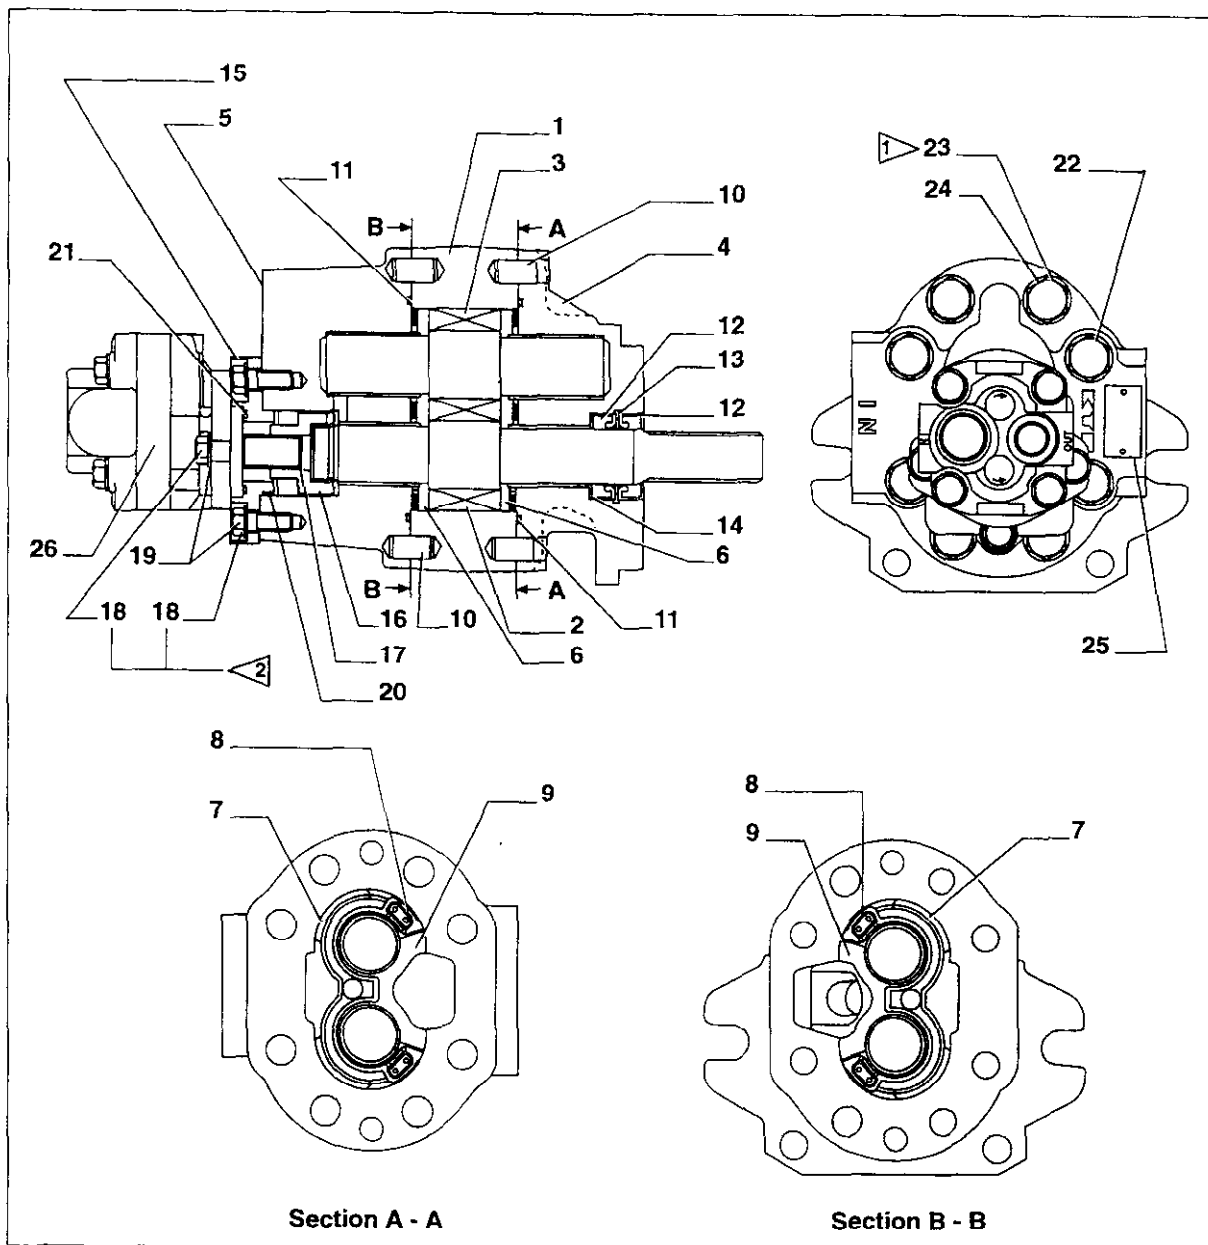

Fig. 6-4 Equipment/steering pump sections
3) Pressure plate (9, fig. 6-4)
4) Mounting flange (4) and covering plate (5) (fig. 6-4)